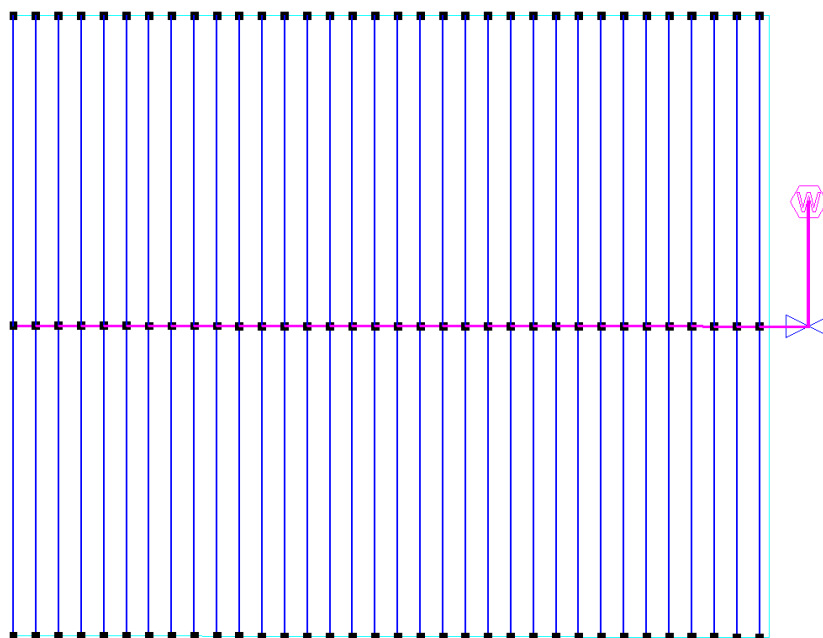

Figure 4-32
10. Now select *Mainline|Pipe*. Leave the pipe as **Computer Selected** and the “Depth” as **0**. Click **[OK]**. Connect the mainline pipe to the control valve with a left-click and draw upwards for approximately **33ft (10m)**. Left-click to place and then *Right-click|Restart*. Select *Mainline|Water Supply* and place on the end of the mainline pipe with a left-click as in Figure 4-32. Leave the Water supply details as the defaults; simply click **[OK]**. Now select *View|Zoom All*.